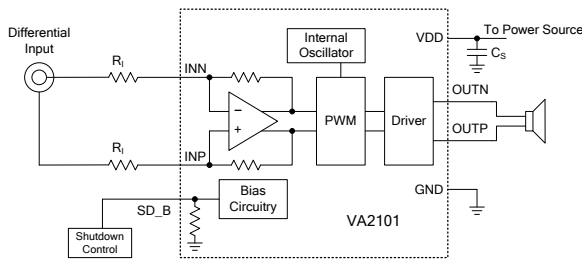

Figure 1. Differential Input Configuration
The gain of VA2101CSG9 is set by external resistors  $R_i$  shown in Figure 1. Set the gain of the amplifier according to the following equation:
The VA2101CSG9 can be used in many circuit input configurations. The simplest and best input configuration is the direct-coupled differential input show in Figure 1. The resistors  $R_i$  set the gain of audio amplifier. Refer Equation (1) to calculate.